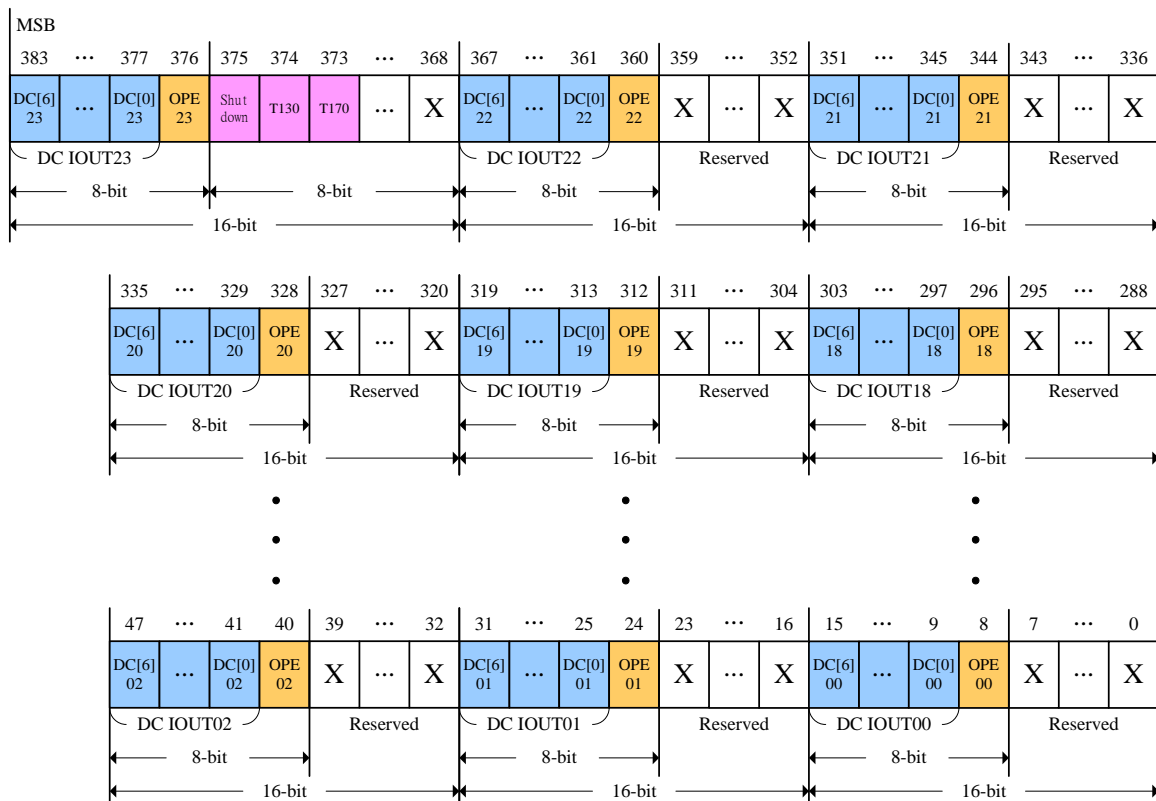

Figure 6. Status Information Data Format (ER[383:0])
When the DM164 operates at GD mode, after the LTH signal latches the input data from shift registers to the data latches, the shift registers data will be replaced by the status information. The status information includes the thermal error signals (Shutdown, T130 and T170,) open error signals (OPE) and dot correction data (DC), which will be transferred out from DOUT pin. Figure 6 shows the status information format.